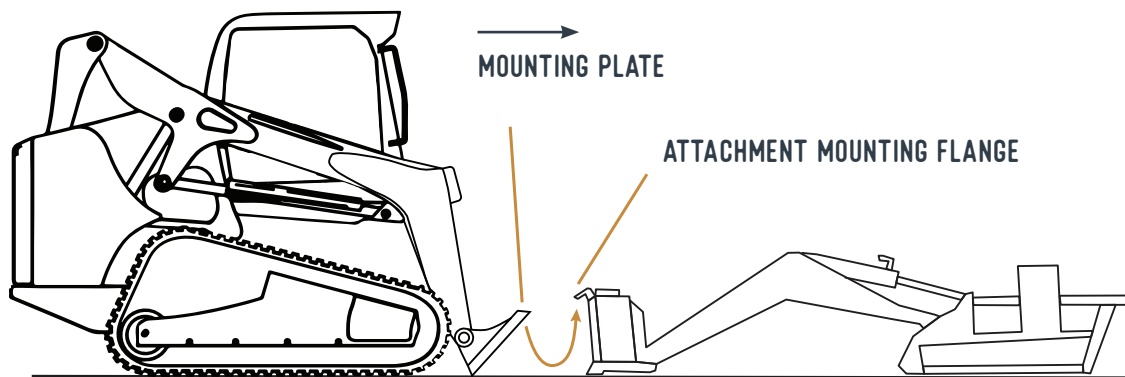

FIGURE 2.3 QUICK ATTACH MECHANISM LOCKED TO ATTACHMENT
2. Drive forward and place top of skid steer mounting plate under the attachment mounting flange. See Figure 2.3 below.